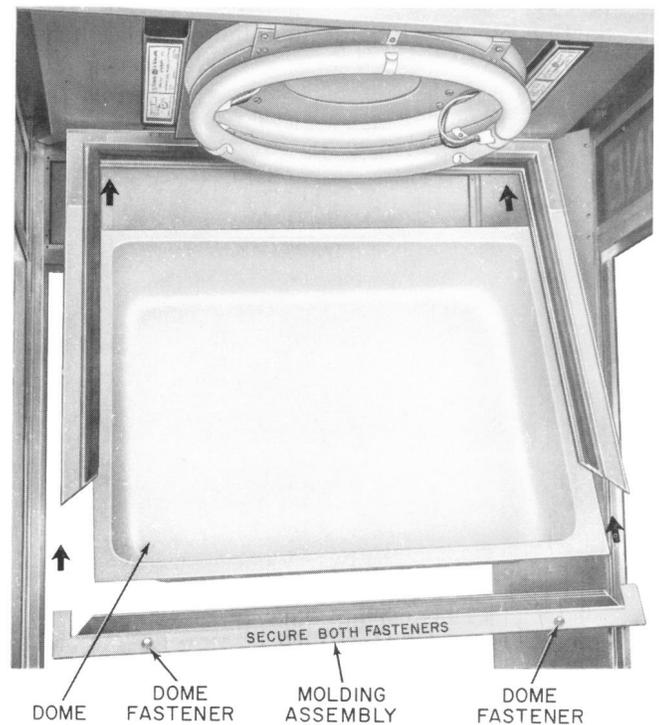

Fig. 8—Installation of Dome
- (1) Unlock dome fasteners and lower dome.
- (2) Remove machine screws and moulding assembly.
- (3) Remove defective dome and insert replacement as shown in Fig. 8.
- (4) Replace and secure moulding assembly.
- (5) Raise dome and secure in position by locking dome fasteners.